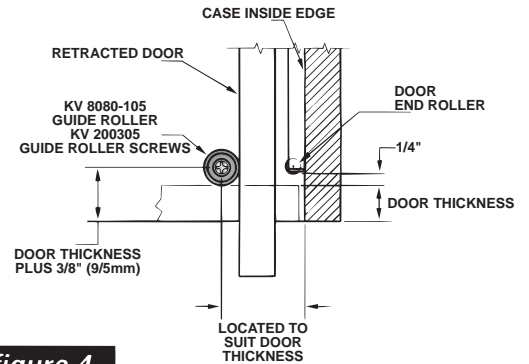

figure 4
- Slides must also be set back from the front of the case a distance equal to the door thickness plus 1/4", as shown (figure 4). Measure this dimension from the edge of the slide roller. Mount slides first through slotted holes to allow for adjustment, if needed. When final adjustments are complete, install additional screws in fixed holes.
- Proper operation requires precise roller location - drill pilot hole for screw located from case edges as shown (**figure 4**).